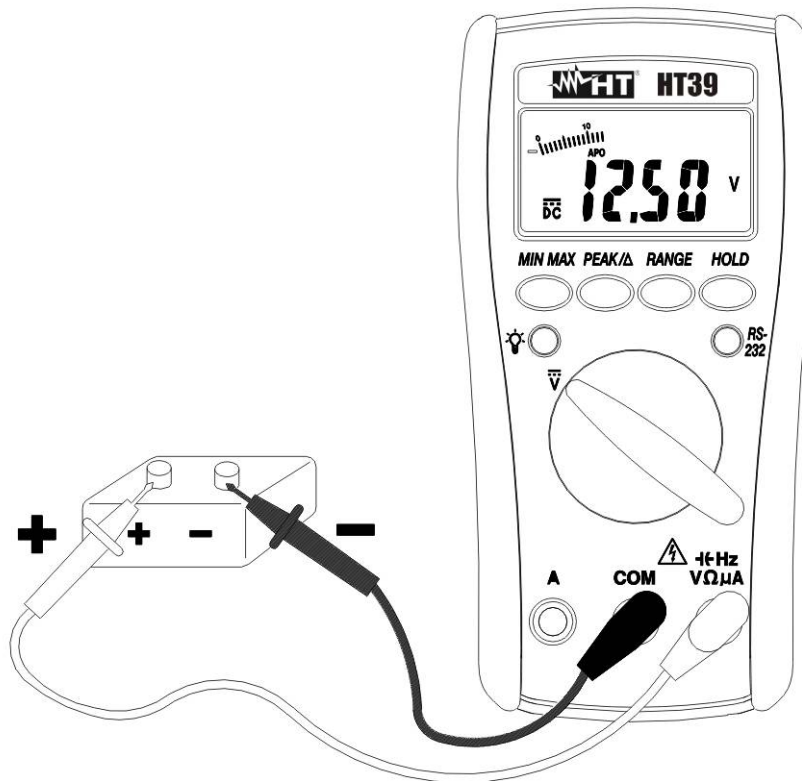

Fig. 3: DC Voltage measurement
2. Insert the test leads into the jacks, the red plug into $\overline{=}$ HzVΩμA jack and the black plug into **COM** jack (Fig. 3).
6. The symbol "-" on the display means that voltage has opposite direction than shown in Fig. 3.